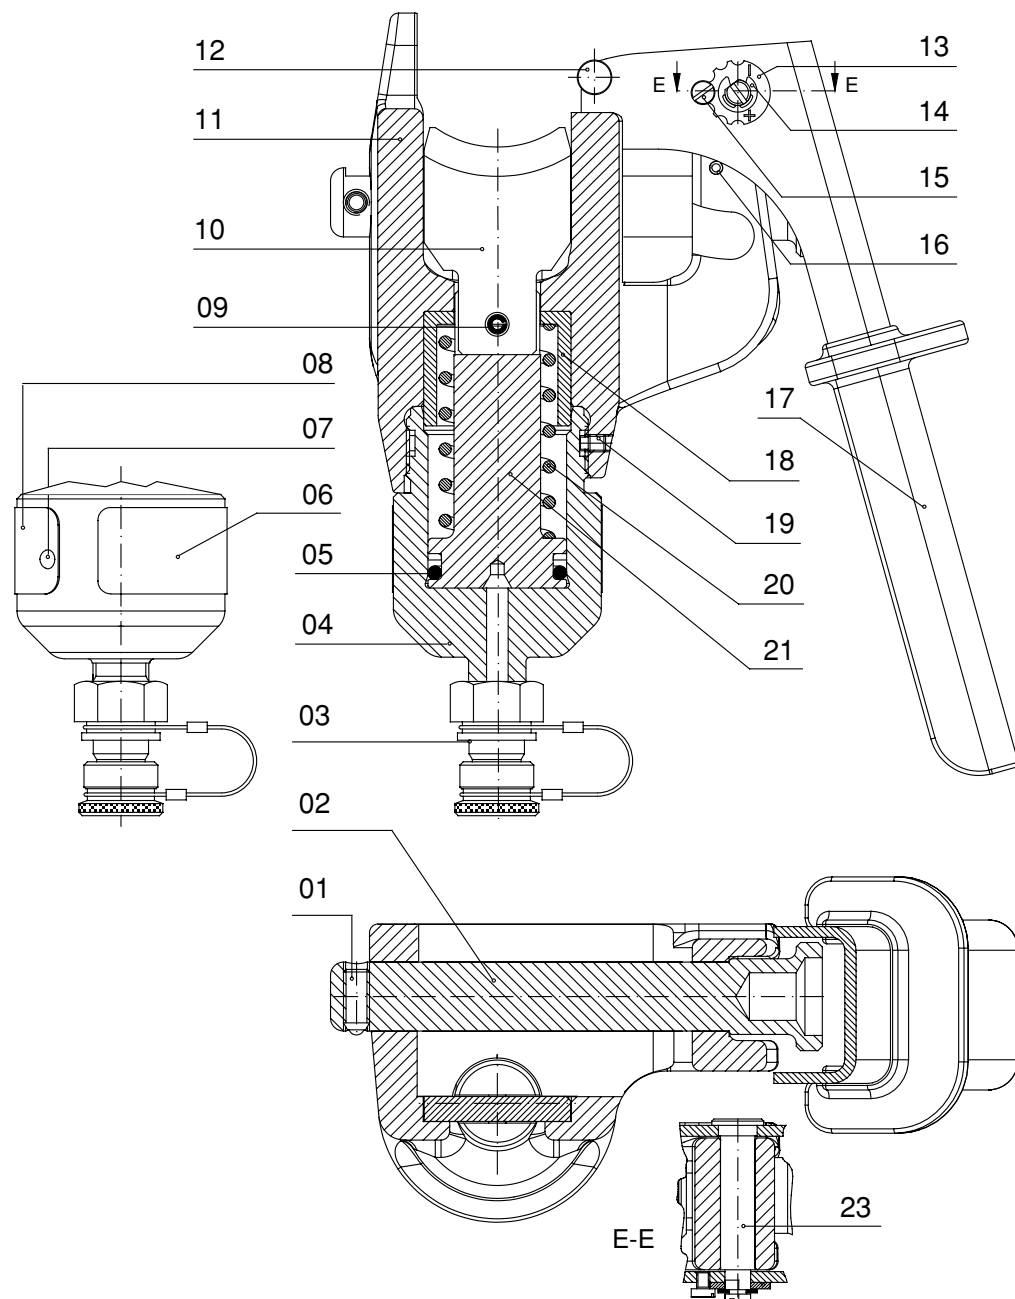

FIG. 8
- Remove the die set from the head, operate the pump to advance the blade (10) until the spring pin (09) in the ram (21) is accessible.
- Use a suitable drift to remove the spring pin (09) and release the blade (10).
- Note the orientation of the blade (10). Remove the blade and fit the replacement.
- Fit the spring pin (09) and release the oil pressure.
4. PARTS LIST (Ref. to Fig. 8)